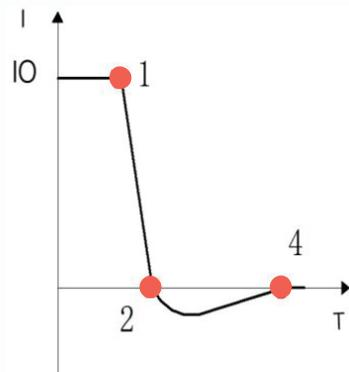

Figure 2
- The material's ultra-high magnetic permeability increases inductance, effectively suppressing the diode's spike current (see Figure 2).